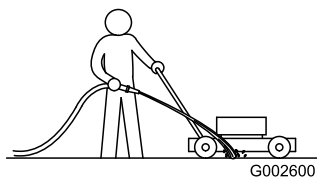

Figure 26
1. With the engine running on a flat paved surface, spray a stream of water in front of the **right** rear wheel (Figure 26).